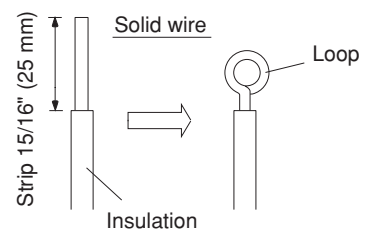

Fig. 10
- (1) Cut the wire end with a cutting pliers, then strip the insulation to expose the solid wire about 15/16" (25 mm). (Fig. 10)
- (2) Using a screwdriver, remove the terminal screw(s) on the terminal plate.
- (3) Using the pliers, bend the solid wire to form a loop suitable for the terminal screw.
- (4) Shape the loop wire properly, place it on the terminal plate and fix it securely with the removed terminal screw using a screwdriver.